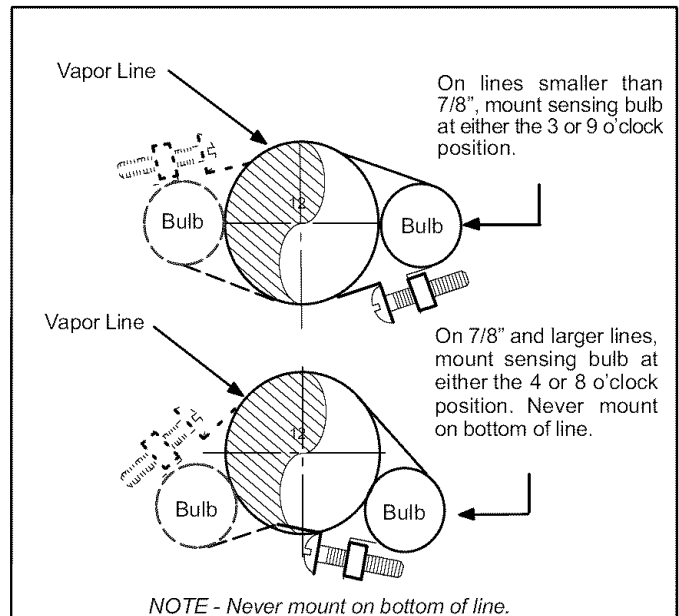

Figure 15. CTXV Sensing Bulb Installation
The CTXV can be installed internal or external to the indoor coil. In applications where an uncased coil is being installed in a field provided plenum, install the CTXV in a location that will provide easy access for field servicing. Refer to Figure 15 for reference during installation of CTXV.
10. Attach the sensing bulb of the CTXV in the proper orientation as illustrated in figure 15 to the vapor line using the clamp and screws provided with the CTXV.